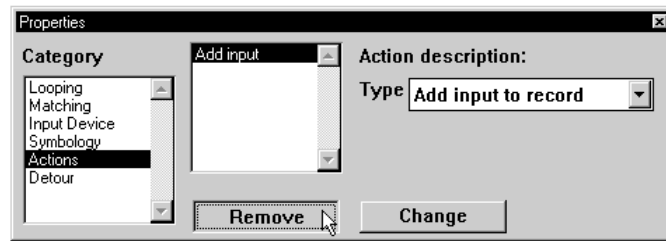

Figure 4-50 Remove Add Input Action
24. Click **Remove** to delete the action from the list (Figure 4-50).